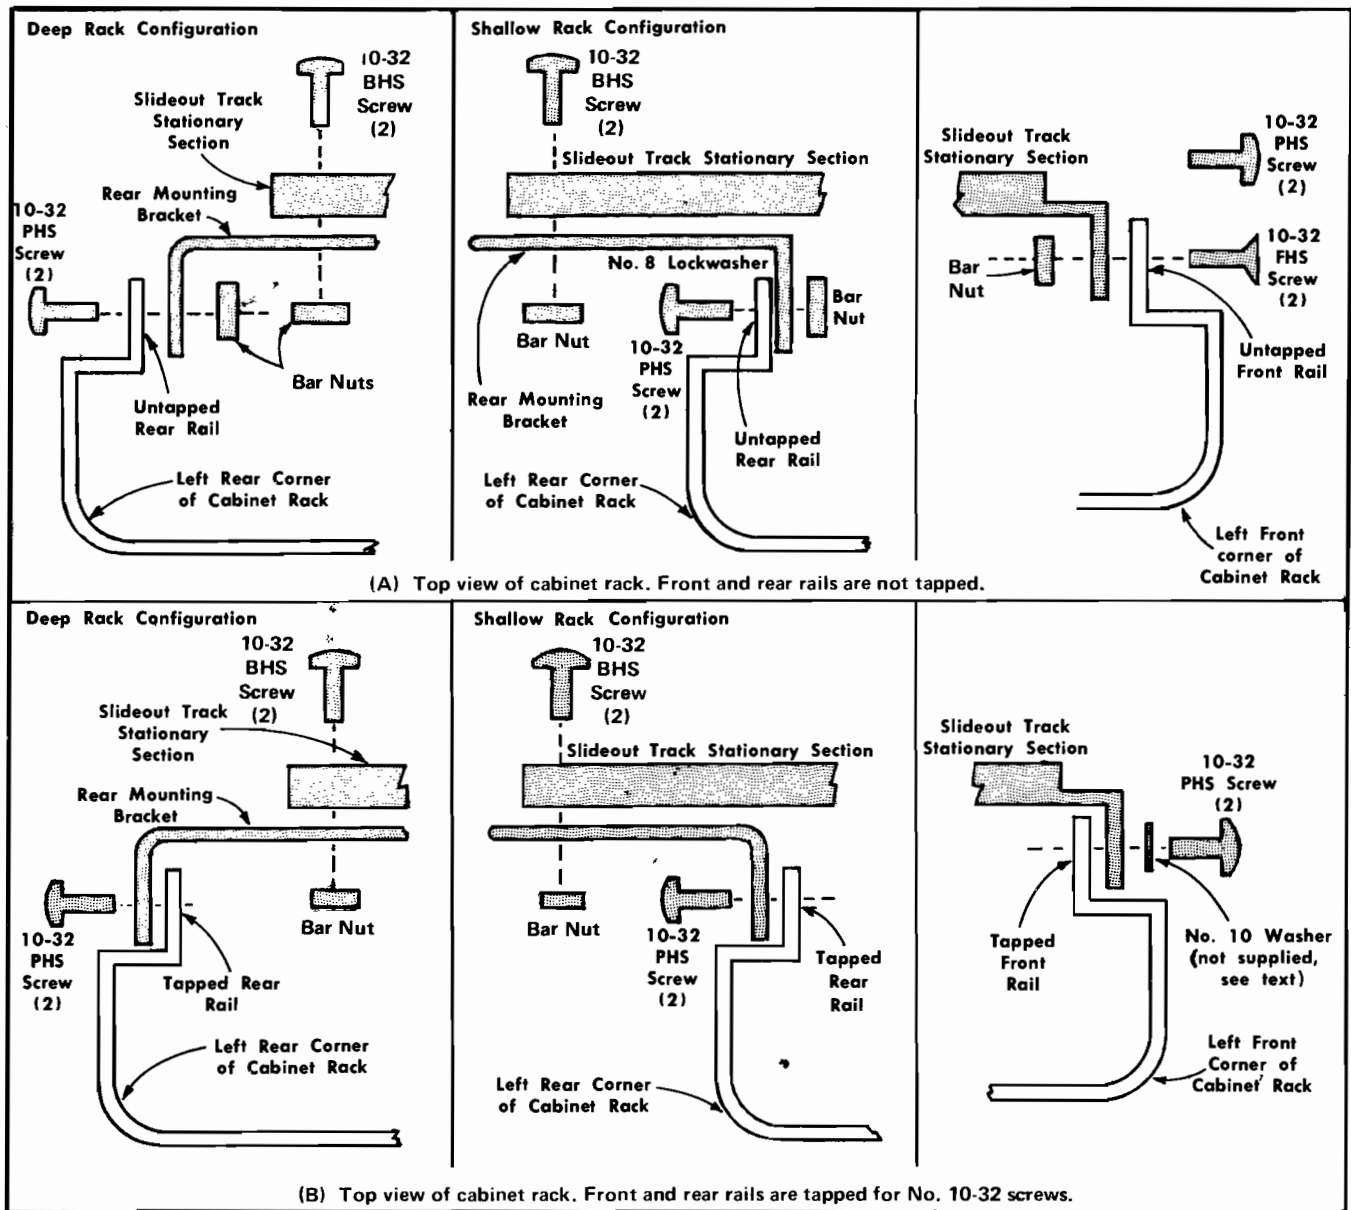

Fig. 6-1. Mounting the left stationary section (with its matched intermediate section, not shown in illustrations A and B) to the rack rails.
**Mounting Procedure.** Use the following procedure to mount both sides. See Fig. 6-1 for installation details.